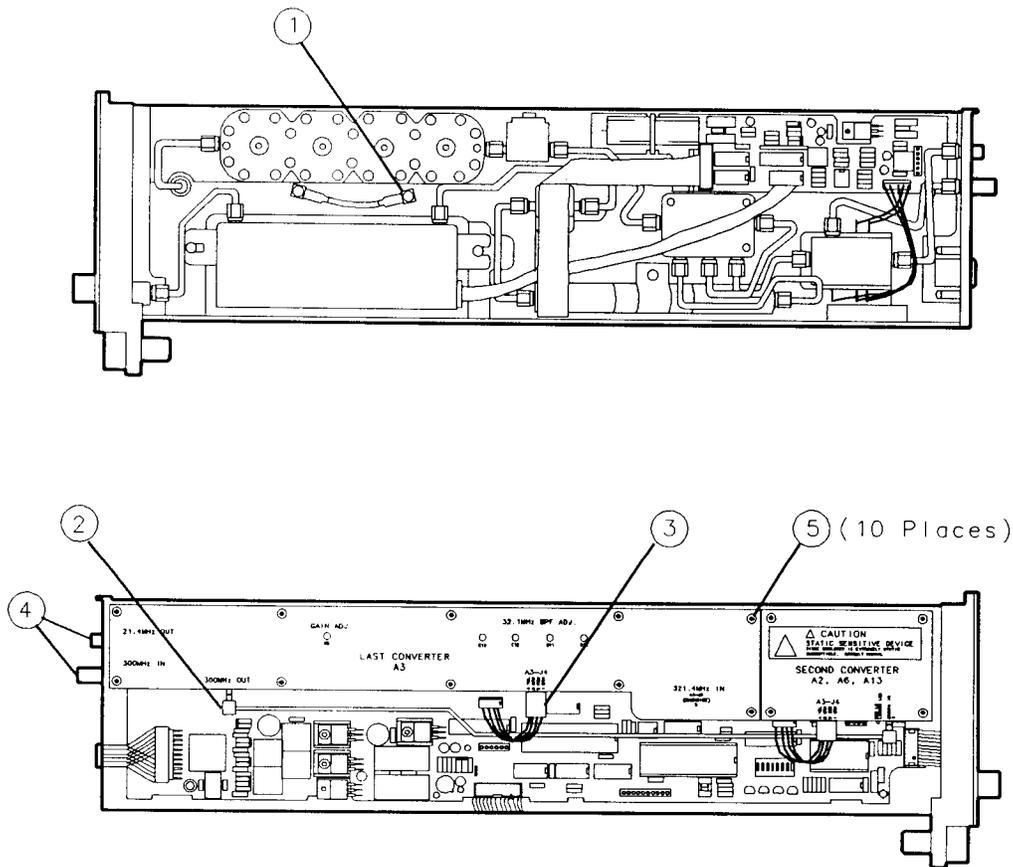

Figure 6-4. A3 Last Converter Replacement
3. Disconnect the W3 coaxial cable on the right side of the module from A3J5 (1). Remove the SMA lock-nut and the star washer from A3J5. See Figure 6-4.
4. On the left side of the module, remove the W9 coaxial cable from A3J3 (2) and the W10 cable from A3J4 (3).
5. Remove the SMA lock-nuts from rear-panel A3J1 and A3J2 (4).
6. Remove the 10 screws (5) from A3 Last Converter cover.